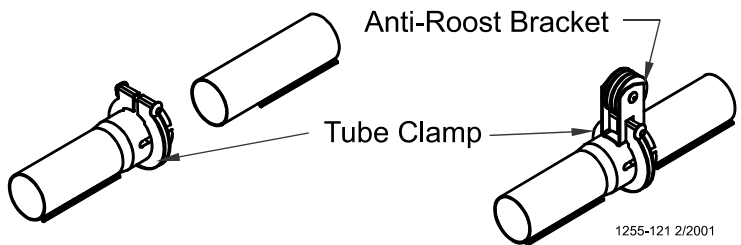

Figure 24. Tube Clamp and Tube Clamp with Anti-Roost Bracket
4. Place a Tube Clamp Assembly or Clamp/Anti-Roost Bracket at each joint. **Figure 24.** shows the standard Clamp and Clamp/Anti-Roost Bracket. Systems using 9' or 10' tubes require a Clamp/Anti-Roost Bracket at every **fifth** joint. Systems using 12' tubes require a Clamp/Anti-Roost Bracket at every **fourth** joint. All other joints in the system use the standard Tube Clamp Assembly.